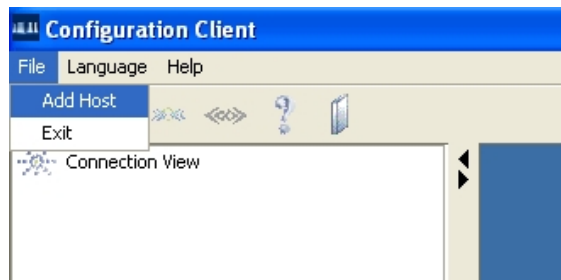

Figure 14-1: Add Host
-  **Step 1.** Open the **Configuration Client** and select **Add Host**. (See *Figure 14-1*)